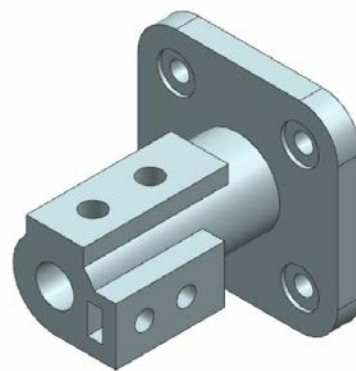

Figure 6-108 The model after creating all counterbore holes
7. Similarly, create the other three counterbore holes in the base feature of the model. The model after creating all counterbore holes is shown in Figure 6-108.